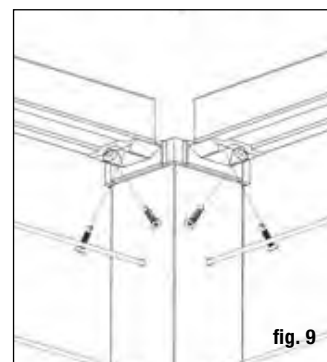

fig. 9
Step 10 Position the rail between the posts. Check for level end-to-end and vertically. Attach brackets to the post at one end. Predrill rail using a 7/64" drill bit. Repeat for the other end. *Tip: Use a driver extension bit to avoid marring the rail with the drill chuck. Install all rails prior to installing cable.* (fig. 9)